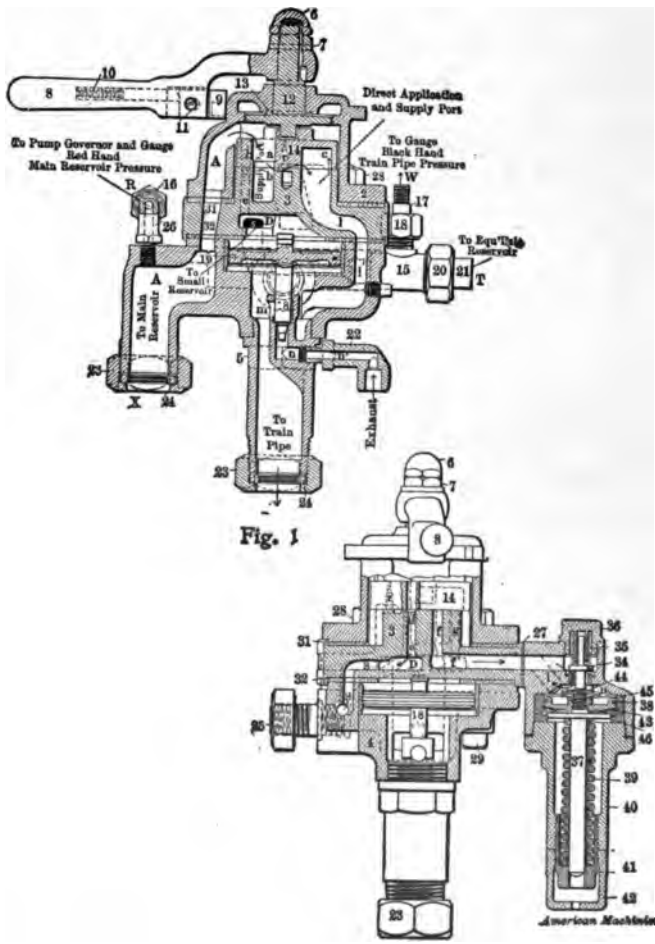

Fig. 3
The main valve is composed of two pistons of unequal diameters, fastened to a suitable rod (76), and on this rod there are two shoulders between which a common D slide valve (83) is held. Fig. 3 represents the bushing in which the main valve and slide valve works.
in the seat so that the steam can pass from the main-valve chamber down through a passage in the side of the cylinder to the underside of the main piston, which forces it up, and the reversing plate strikes the shoulder, *j*, on the reversing-valve stem, which drives the reversing valve up and allows the steam in the reversing-valve chamber to pass through the lower horizontal port in the main-valve bushing (see Fig. 3) into the chamber between the head 84 and piston 77. As this balances the pressure on both sides of the large piston 77, the small piston 79 now pulls the slide valve to the opposite end of the chamber, which uncovers the supply port to the top of the main piston and allows the steam to force it down, and at the same time the steam from the underside is being exhausted by way of the cavity in the slide valve, which now has the lower supply port and the main exhaust connected.
As the main piston is now making its down-stroke the reversing plate (69) engages the button on the end of the reversing-valve stem and draws the reversing valve down to the position shown in Fig. 2, which connects the second horizontal port in the bushing with the port which in Fig. 3 appears to be vertical and having a short extension to the right, and as this port is always open to the main exhaust, the steam between piston 77 and the head 84 is exhausted, which allows the steam in the main-valve chamber to again force piston 77 to the position shown in Fig. 1, which places the slide valve in position to allow the steam to exhaust from the top of the main piston, and at the same time connects the main-valve chamber with the underside of the main piston, causing it to be forced up, as before.
- 22. Body gasket. Fig. 3 shows rotary seat and preliminary exhaust port *h*, and equalizing port *g*, both lead into cavity *D*.
The D-8 brake valve uses the pump governor to control the trainpipe pressure of seventy pounds, and the connection is made at V (plate 17); the "excess" is controlled by what is known as the excess pressure valve (19, Fig. 3, of plate 17).
Nos. 34 to 46 in Fig. 3 of plate 19 all refer to the old style feed valve attachment as used on the F-6 brake valve. The essential parts are the supply valve (34), valve spring (35), diaphragm piston (37), regulating spring (39), regulating nut (41).
When the rotary is in running position the operation of the feed valve is as follows: the regulating spring being set at seventy pounds tension, it forces the piston up against the stem of the supply valve and raises it off its seat, causing the main reservoir pressure to flow from the top of the rotary down through port *j* in the rotary (Fig. 4 plate 20), and through port *f* in the rotary seat (Fig. 3, plate 19), through a passage (*f*), and under the supply valve to the top of the diaphragm piston, then through a port (shown by
dotted lines, and marked *z*; Fig. 2, plate 20), which leads off the top of the piston into the trainpipe by way of the main supply port, as shown by dotted lines in Fig. 2. As the rotary is now in position so that the large cavity (*c*), as shown in Fig. 4, plate 20, connects the main supply port with the equalizing port *g* (which passes through the rotary seat into cavity D), the air that is passing from the top of the rotary through the feed valve into the trainpipe, is also filling cavity D, and the little drum, by way of ports *g* and *s*, as shown in Fig. 3, plate 19 (while plate 19 shows full release position, still ports *s* and *g* are plainly shown, and if the handle was moved to running position the port through the rotary that registers with port *e* in Fig. 3, would be in register with port *f*; port *g* is indicated by dotted lines).
Fig. 3 shows how the new slide valve feed valve is attached.
By plate 21, Fig. 3, you will see that there is a slide valve (55) attached to a piston (54), and this piston is forced forward by a spring (58).